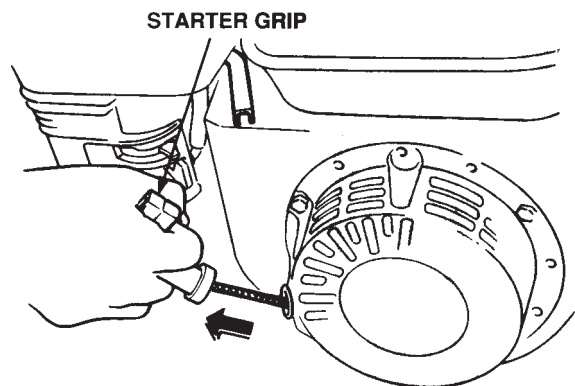

Figure 11. Starter Grip
5. Grasp the starter grip (Figure 11) and slowly pull it out. The resistance becomes the hardest at a certain position, corresponding the compression point. Rewind the rope a little from that point and pull out sharply.
6. If the engine has started, slowly return the choke lever (Figure 11) to the **CLOSED** position. If the engine has not started repeat steps 1 through 5.